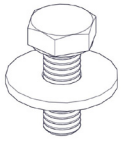

**FIG 9** Davos A High\_N-29A
**FIG 9 a** Davos A High\_N-29A